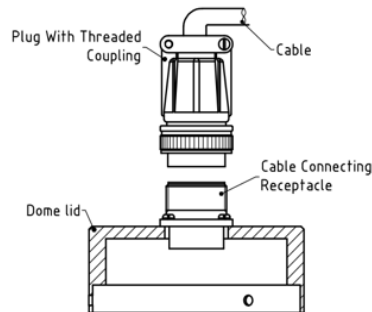

Figure 3.8: Connecting the Transducer Cable at the Transducer
- Securely fasten the cable to the transducer receptacle using the threaded coupling at the end of the transducer cable. Figure 3.8 shows a representative transducer cable installation.